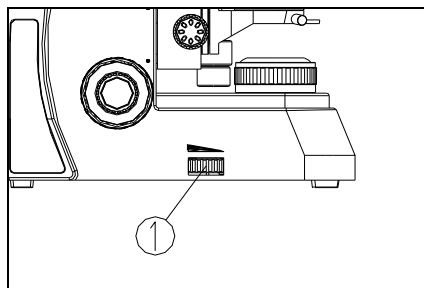

Fig. 9
2. Adjust the light adjustment knob ① until the illumination is comfortable for observation. Rotate the light adjustment knob clockwise to raise the voltage and brightness. Rotate the light adjustment knob counterclockwise to lower the voltage and brightness (see Fig. 9).